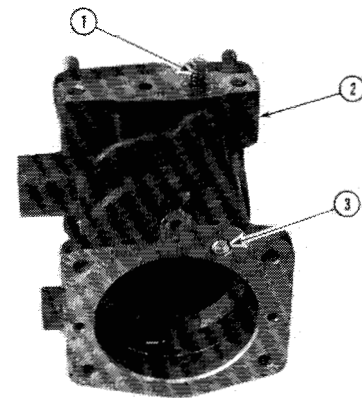

Figure 107
Install O-ring and retainer plug (3, Figure 107) in power booster (2) if removed at disassembly.